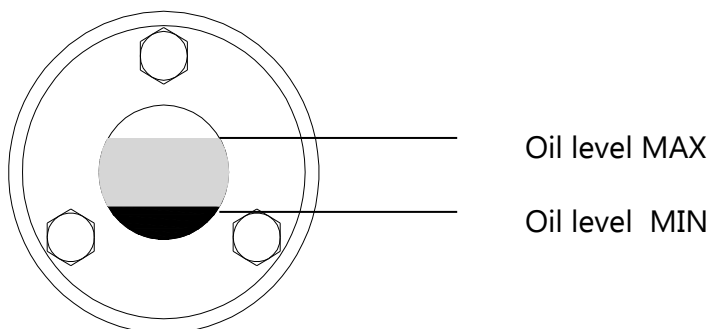

Fig. 82 Oil level range
- d) Introducing a quantity of oil to bring the level within the range shown in Fig. 82.